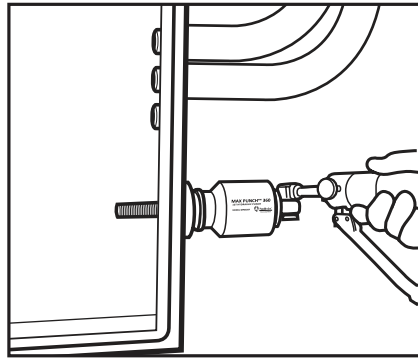

Fig. 4
5. Insert draw stud through pilot hole (Fig. 4).